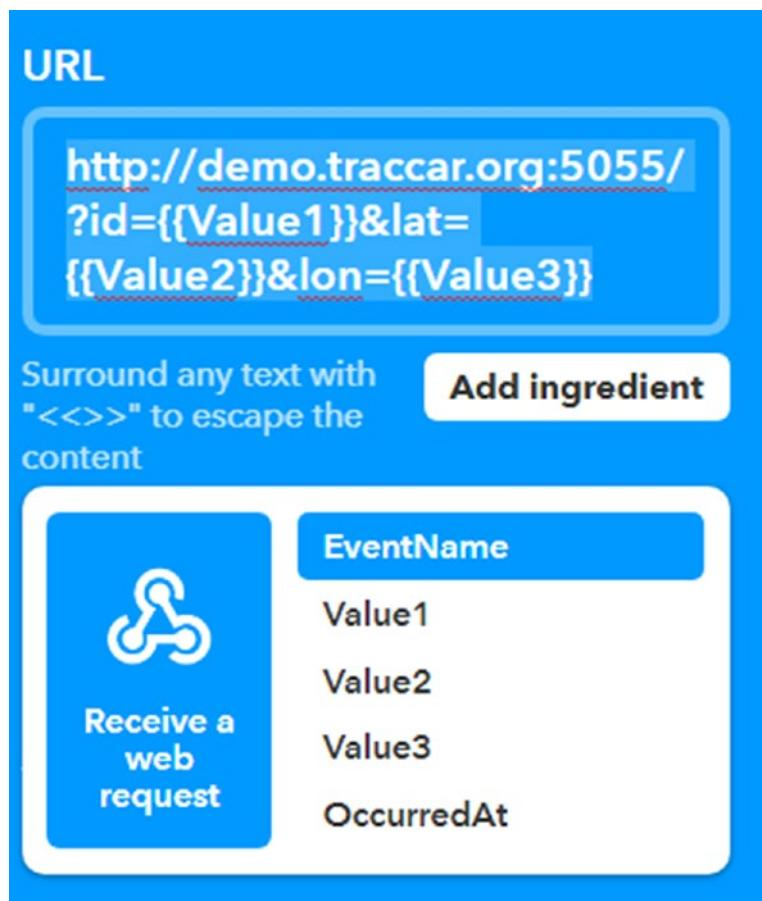

Figure 8-34. Building an HTTP GET request
- The {{Value}} fields can be added by clicking the “Add ingredient” button (Figure 8-34). Then choose the following: